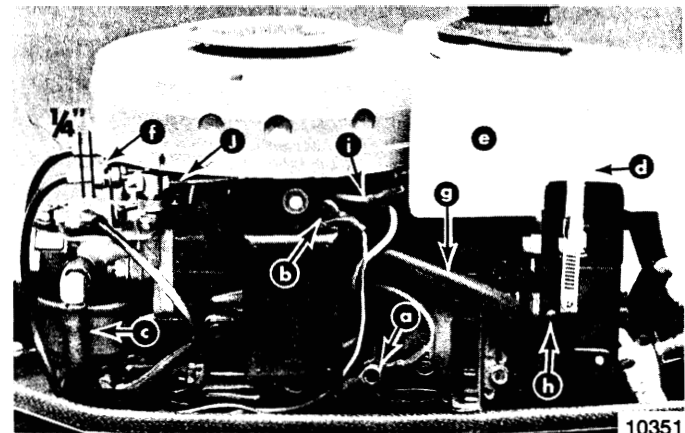

Figure 4. Left Side View of Merc 40
5. Remove black ground wire from cylinder block (one screw). (Figure 4)
6. Remove orange stop wire from switch box (one screw). (Figure 4)
7. Cut clamp and remove fuel line from carburetor. (Figure 4)
10. Remove fuel tank mounting strap (if plastic, cut and discard) and fuel tank. (Figure 4)